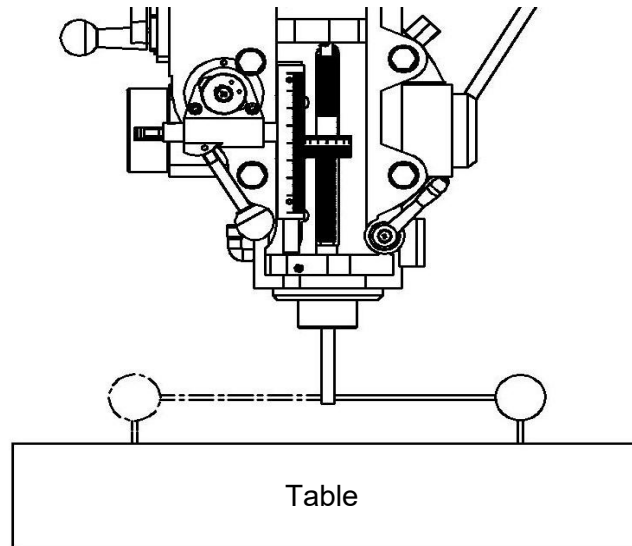

Figure14
4. Set up a dial indicator in a collet and secure it using the draw bar (refer to Figure 14).
- c. Set up a dial indicator in a collet and secure it using the draw bar (refer to Figure 14).